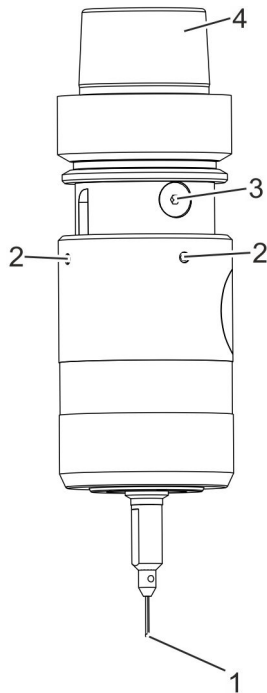

Fig. 65: Infrared workpiece sensor
1. ➤ Clean the holder (Fig. 65/4) and measuring ball (Fig. 65/1) of the infrared workpiece sensor with a cleaning cloth and non-greasing cleaning agent.